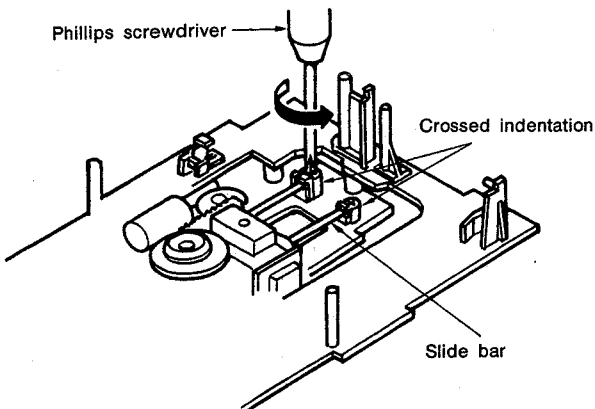

Fig. 7
4. Removing the Pickup (Fig. 7)